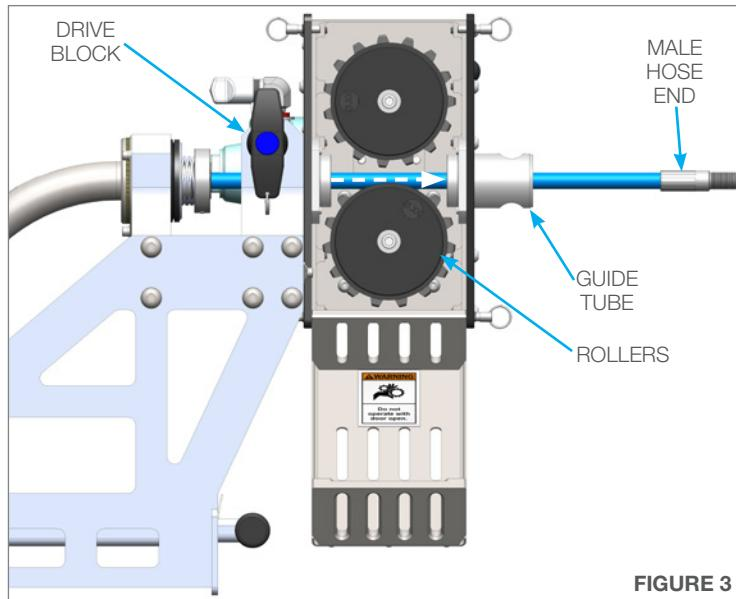

FIGURE 3
3. With the Rollers open, slip the hose through the Drive Block, Rollers and Guide Tube. Be sure to pull enough extension to feed through the Snout. (**Figure 3**)